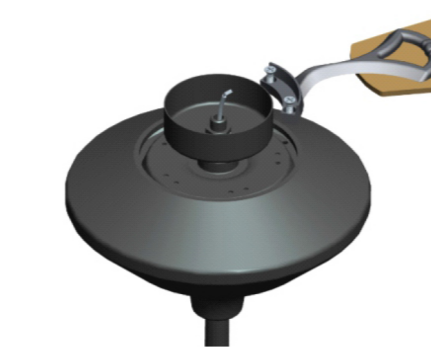

Fig 2.1
- 2.1 Fix the prepared blade arm to the underside of the motor assembly with the blade arm screws as shown in Fig 2.1.